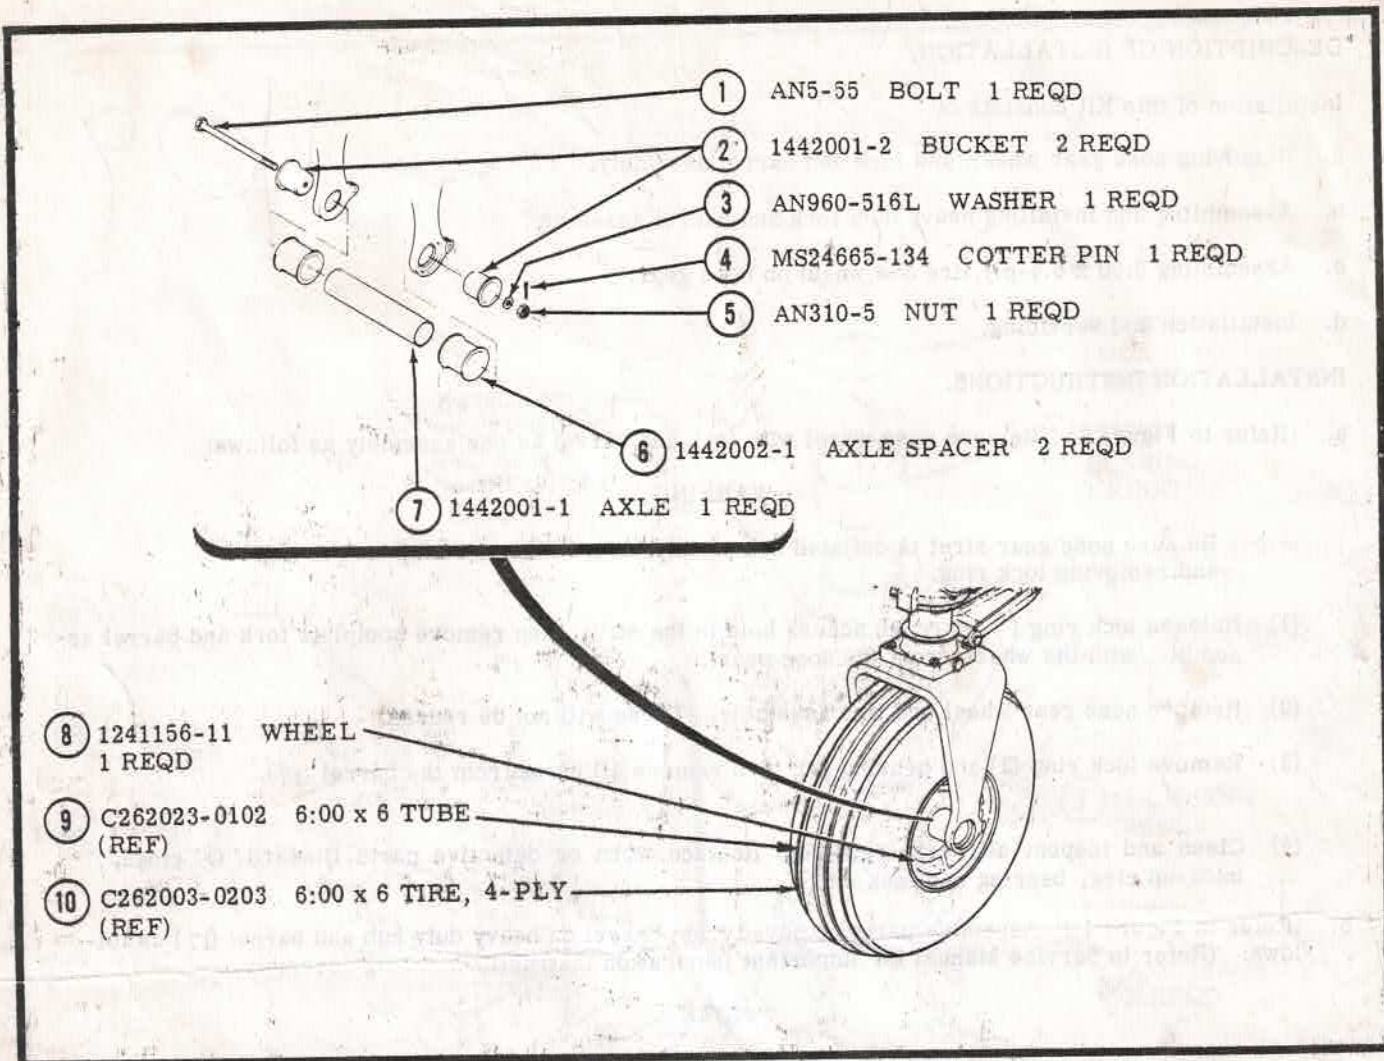

Figure 2. Nose Wheel Installation
- (1) Assemble the fork (9) to hub and barrel (17) using (8) and (12). The scraper (13) is installed under the heads of the two aft bolts (12). All four bolts are secured with lockwashers (10) and nuts (13).
- (2) Starting with lock ring (7), in reverse order of removal, reinstall all parts on barrel (17).
- c. (Refer to Figure 2.) Assemble 6:00 x 6 4-ply tire and tube to heavy duty wheel and install on nose gear as follows: (Refer to Service Manual for detailed instructions.)
- (1) Install Part No. S-1402-2 6:00 x 6 tube and Part No. S-1401-3 6:00 x 6 4-ply tire on the wheel. (The tire and tube are not included in the kit.)